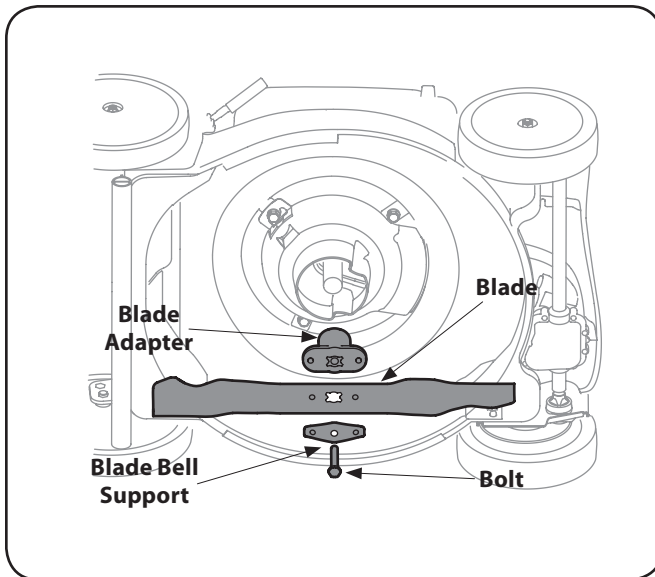

Figure 7-1
2. Remove the bolt and the blade bell support which hold the blade and the blade adapter to the engine crankshaft. See Fig. 7-1.
3. Remove blade and adapter from the crankshaft. See Fig. 7-1.
3. Tip mower on its side with the air filter up to access belt from underside of mower and remove blade as described in the previous section. Refer to Fig. 7-1.